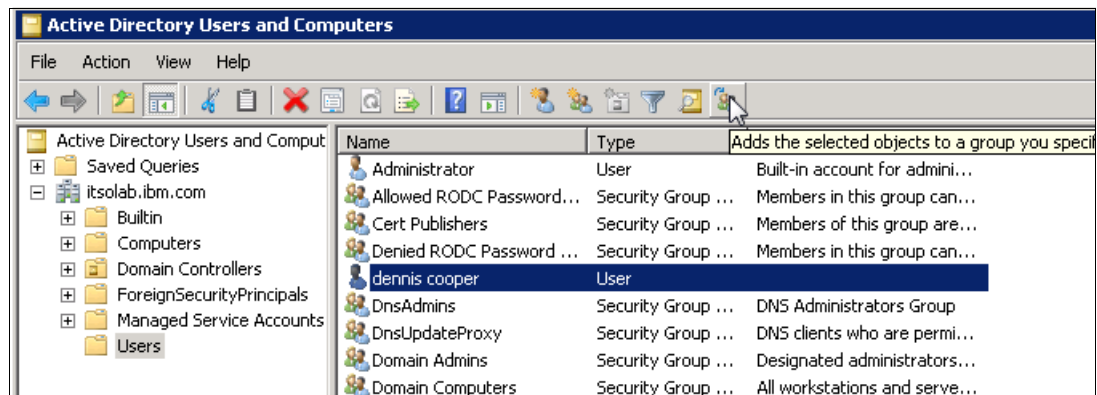

Figure 7-14 Adds the selected objects to a group you specify
3. Highlight the users that you want to add to the FlashSystem 900 storage administrator group and click the **Adds the selected objects to a group you specify** icon (Figure 7-14).